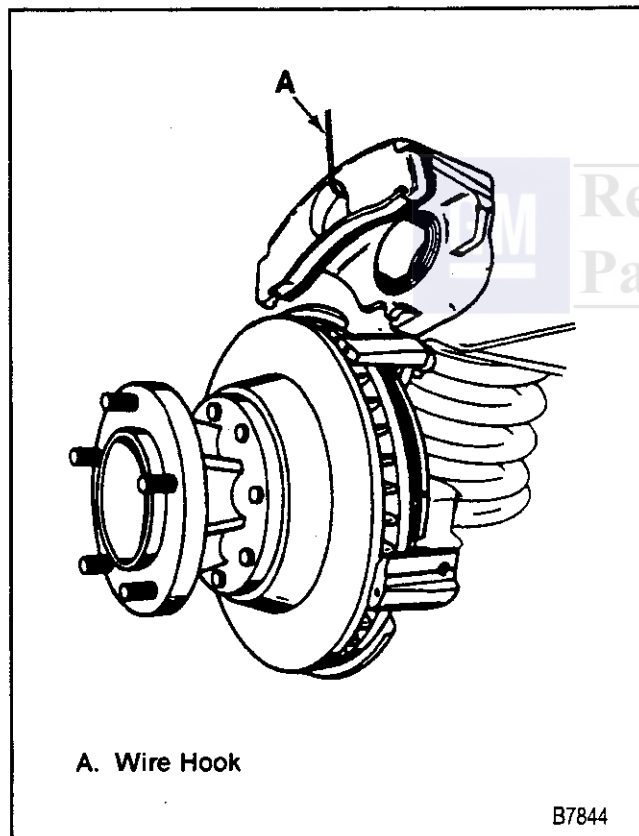

Figure 19—Suspending the Caliper
1. Caliper (1). Refer to "Caliper."
- Suspend the caliper (figure 19).